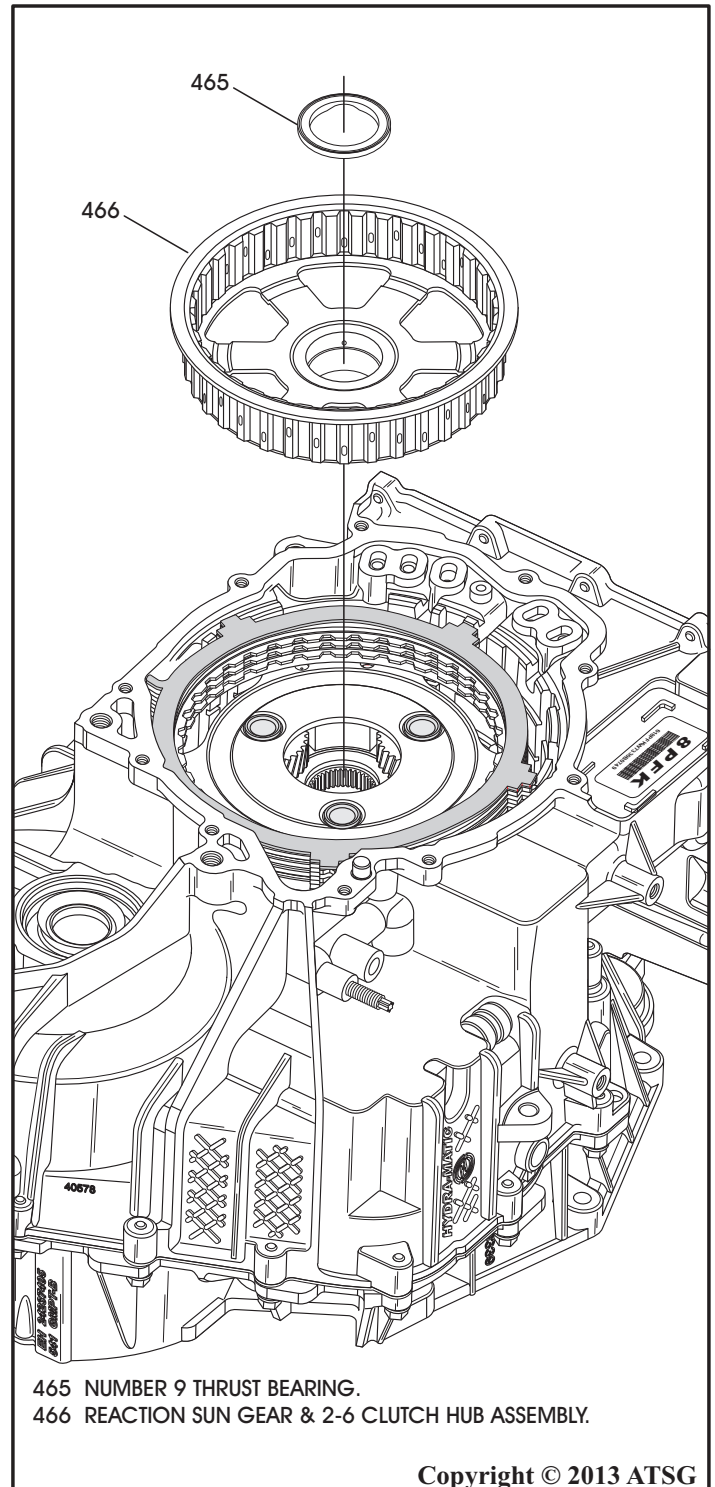

Figure 57
27. Remove the number 9 thrust bearing and the reaction sun gear, as shown in Figure 57.